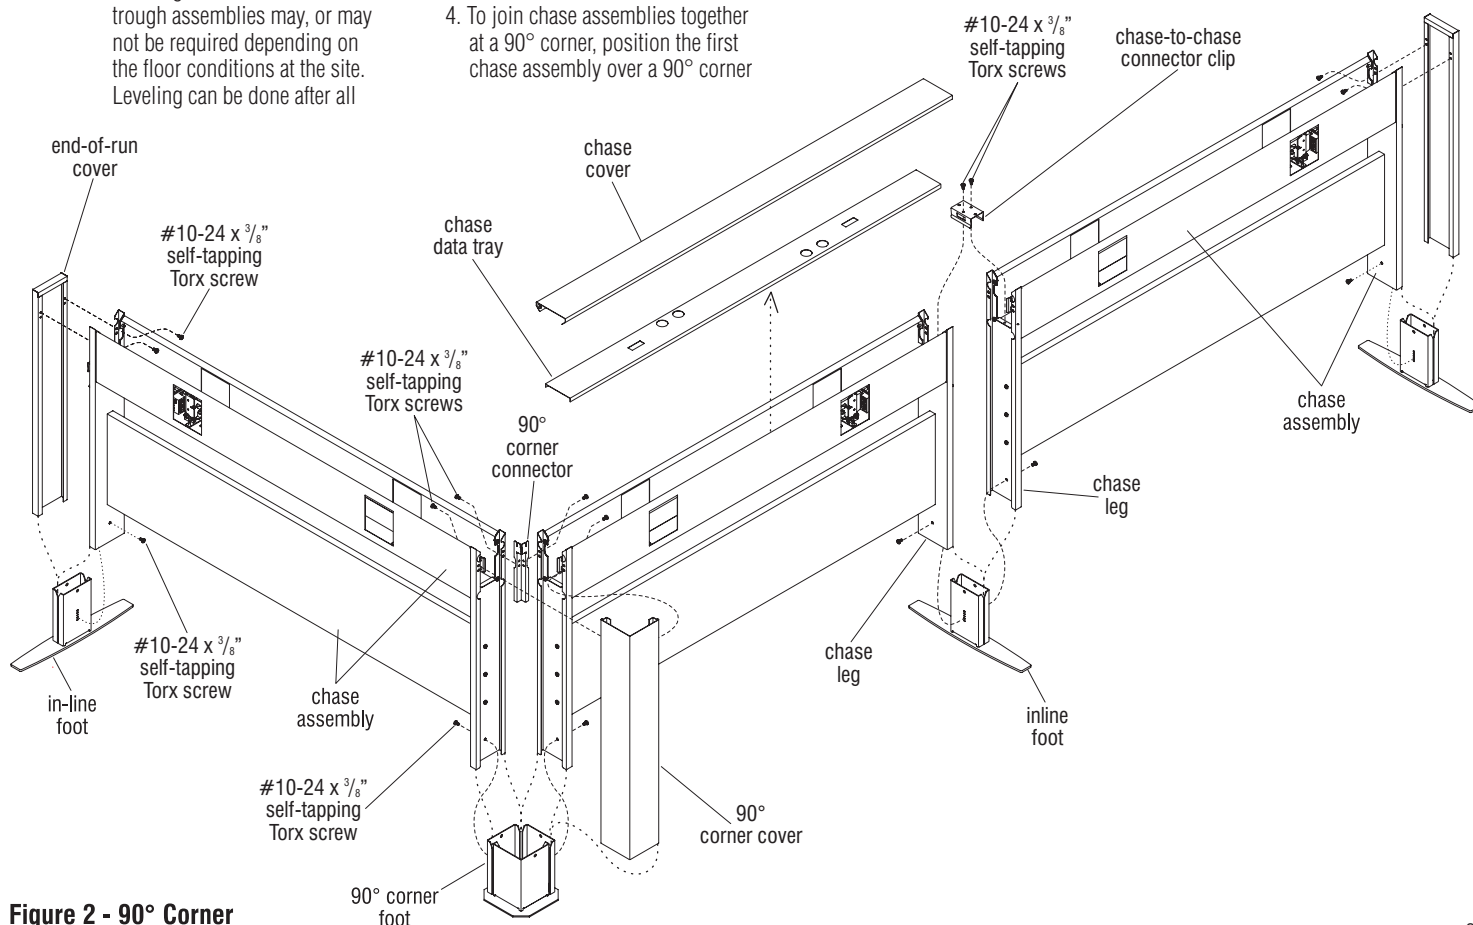

Figure 2 - 90° Corner
Note: The instructions and Figure 2 below illustrate typical inline and 90° corner configuration of chase assemblies. Each configuration may vary. Please reference the space-planning layout to determine the location and configuration of the room.
1. If the chase trough assembly shipped with a chase cover and/or chase data tray pre-installed, remove those components at this time and carefully set aside for later use (Figure 2).
2. To join chase assemblies together inline, simply insert the bottom of a chase leg at one end of a chase assembly over the upright bracket of an inline foot as illustrated. Next, insert the chase leg of the second chase assembly into the other side of the same inline foot (Figure 2).
3. At the top of each inline chase union, orient a chase-to-chase connector clip and snap it on to secure the alignment of the mating chase uprights. If desired, use two #10-24 x 3/8" self-tapping Torx screws through the mounting holes to secure the clip to the flanges as illustrated (Figure 2).
foot as shown. Insert the lower part of the chase leg into the corner foot, in a similar manner as installing to an inline foot (Figure 2).
Torx screw through each chase assembly upright and into one mounting location of the corner connector (Figure 2).
6. Attach a 90° corner cover to the corner by first sliding the bottom of the cover over the upright bracket of the 90° corner foot. Align the holes at the inner, top of the corner cover with the top mounting holes of the chase leg uprights. Install both adjoining chase assemblies to the 90° corner cover with one #10-24 x 3/8" self-tapping Torx screw each, through the mounting holes as was done with the inner connectors (Figure 2).